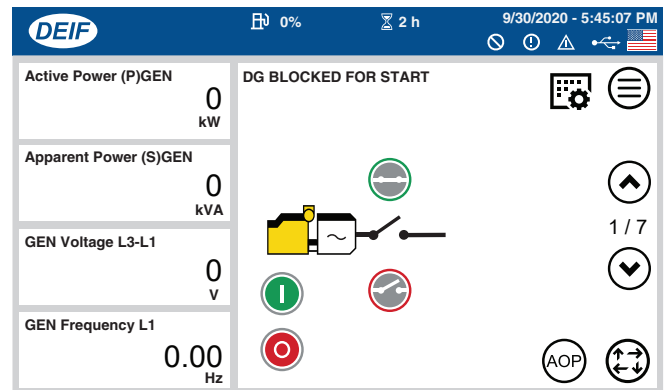

Figure 90. Home Screen (1 of 7)
8. Verify that the **Home** screen (1 of 7) is displayed. See Figure 90.
- Verify that the **Home screen (1 of 7)** is displayed. See Figure 90.